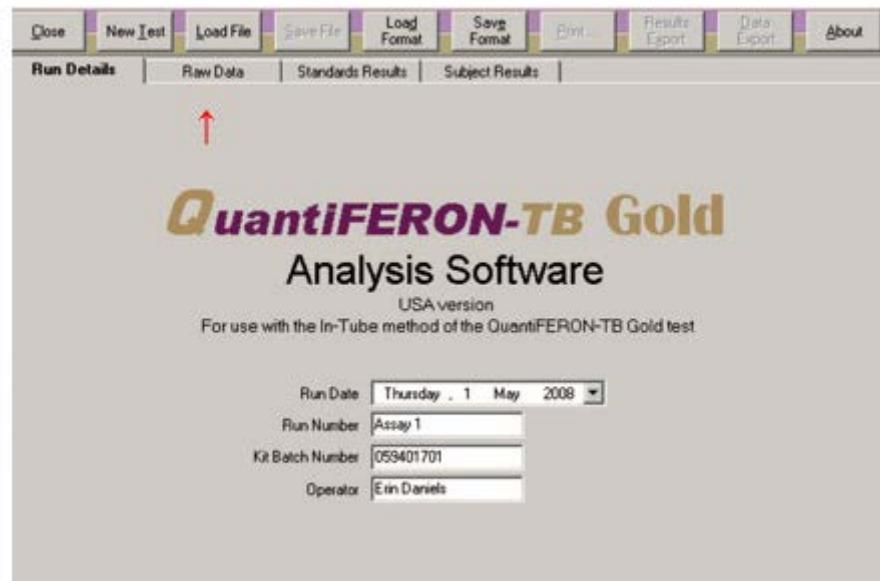

Figure 2
- 3) Select the Raw Data tab to advance to the next screen (see Figure 2 ↑).